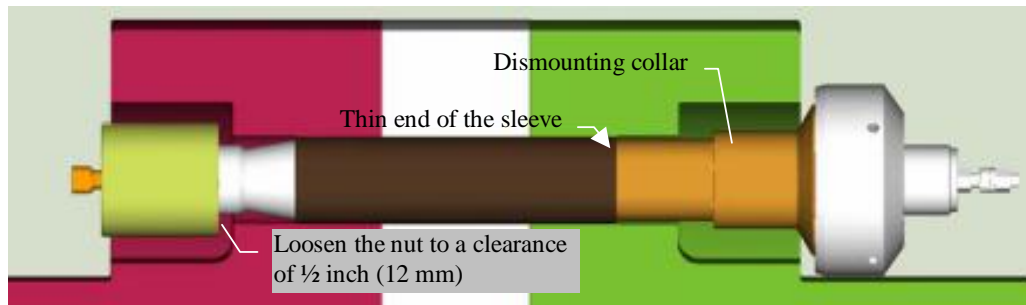

fig 13.3
- 14.3.2 Screw the adapter into the bolt end opposite from the thick end of the tapered sleeve. Insert the dismantling collar and screw the tensioner onto the adapter thread against the dismantling collar. Pressurize the tensioner and the bolt will be pulled out of the sleeve. The tools bolt and sleeve can now be removed. (fig.13.3)